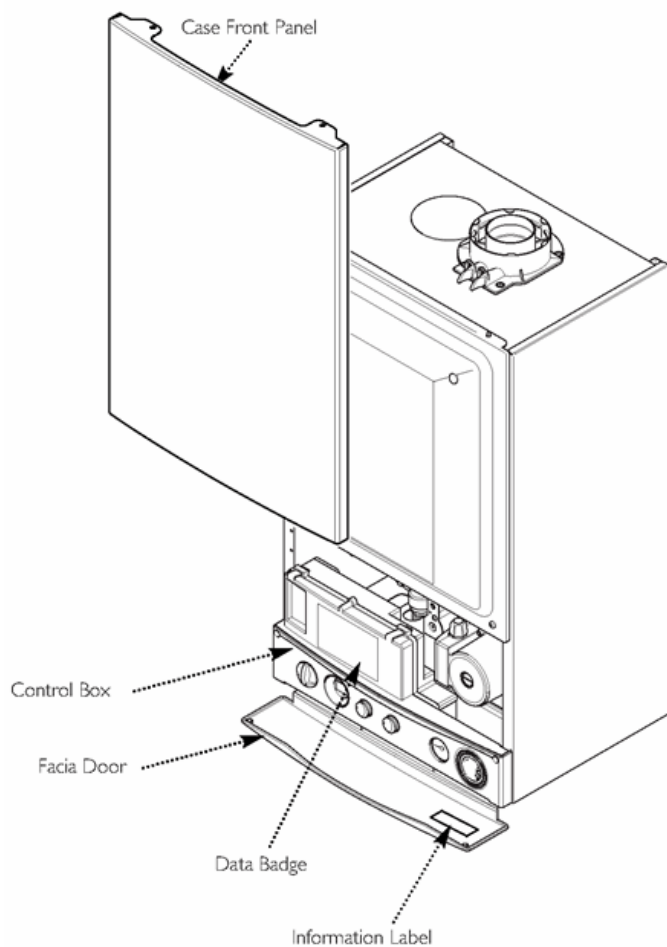

Fig. 1
5. The boiler data badge gives details of the model, serial number and Gas Council number and is situated on the inner door panel or the control box. It is visible when the case front panel is removed (Fig. 1).